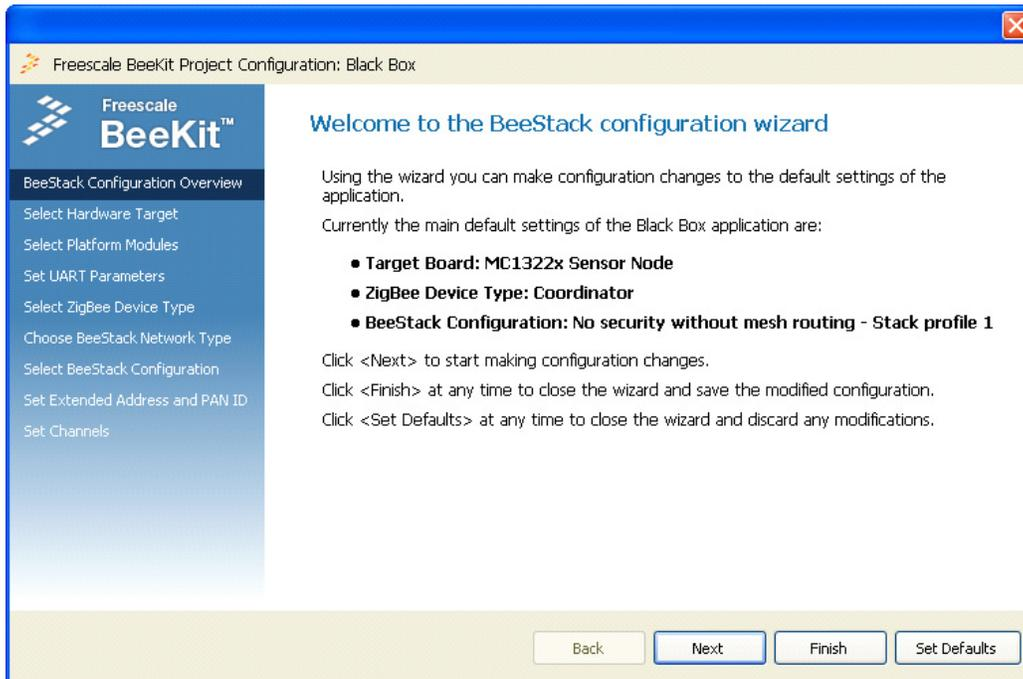

Figure 7-2. Project Configuration Wizard Window
7. After the New Project window closes, the BeeKit Project Wizard Welcome window appears as shown in Figure 7-2.
Review the current project settings. The default settings used in this example are shown in Figure 7-2.